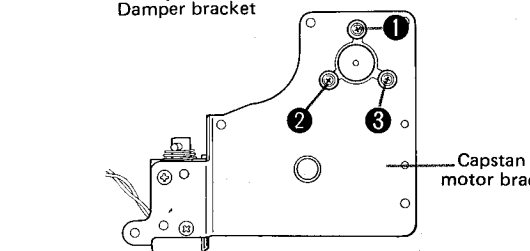

Fig. 17
3. Remove the screws 1 to 3 in Fig. 17 and then replace the capstan motor.